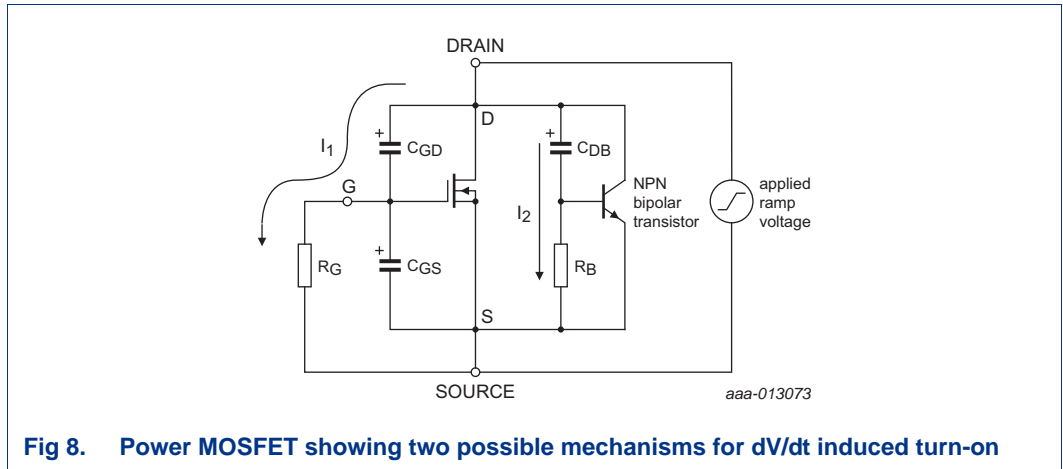

Fig 8. Power MOSFET showing two possible mechanisms for dV/dt induced turn-on
7.8 Q: Can NXP provide R_B , C_{DB} , V_{BE} saturation values in the parasitic BJT model, as shown in Figure 8?
A: These values are required to be able to calculate Equation 6. The aim is to obtain a dV/dt value to check if parasitic BJT turns on, leading to device failure. It is impossible to measure the characteristics of the parasitic bipolar transistor as its terminals cannot be accessed independently of the MOSFET terminals. A parasitic bipolar transistor is always created when a MOSFET is fabricated. Referring to Figure 8, it can be seen that there are two current paths which could cause MOSFET problems. Current I_1 flows via C_{GD} and depending on C_{GS} and R_G it can cause the MOSFET to switch on momentarily. It is often referred to as a gate glitch. Current I_2 flows via C_{DB} and R_B which can potentially switch on the parasitic BJT